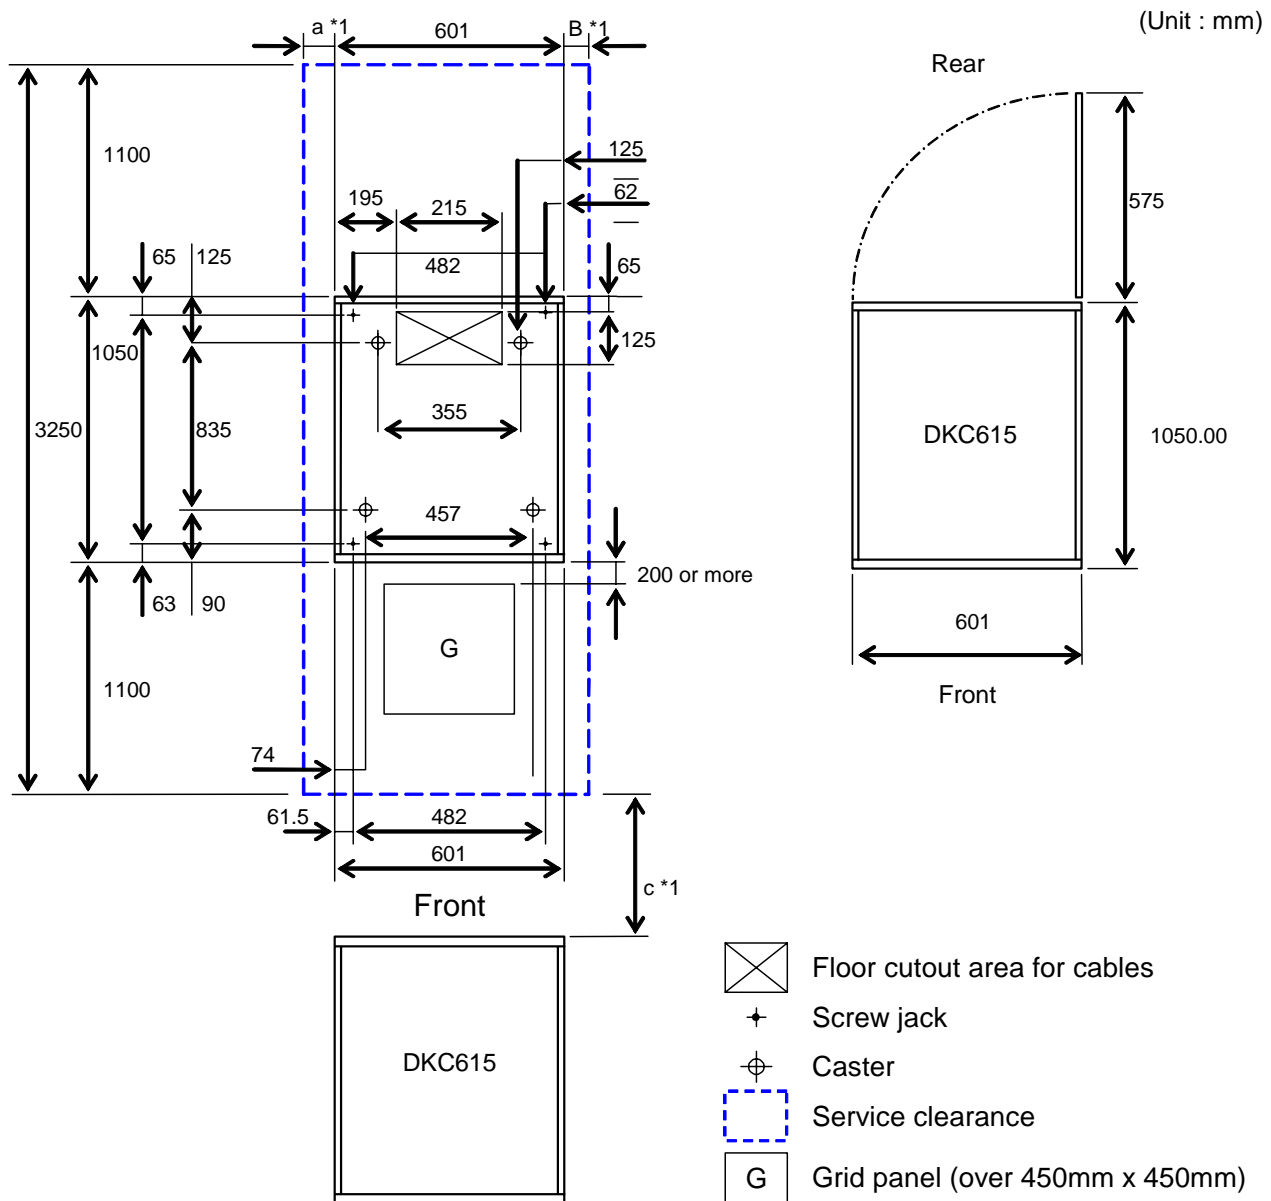

Figure 2-4 Service Clearance and Floor Cutouts: Single Rack
- Figure 2-4 shows the service clearance and floor cutout requirements for the single-rack configuration. Table 2-3 shows the floor load rating and clearance requirements for this configuration.